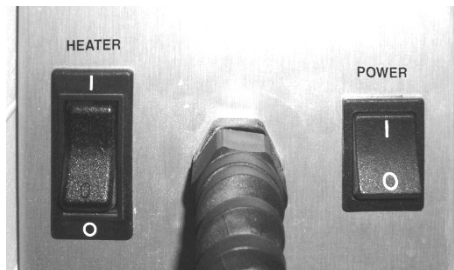

Figure 20 – Heater and Power Switches in the On Position
66. Turn the heater and power switches into the on position (see Figure 20).